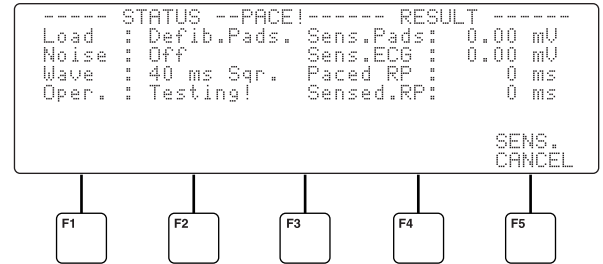

Figure 28. Sens. Test
3. Press **SENS. TEST (F2)**. The screen shown in Figure 28 appears.